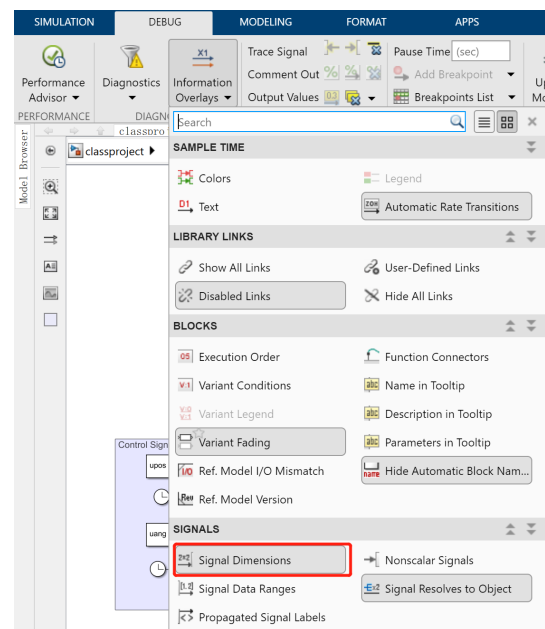

Fig. 17. Check signal dimensions.
- j. Final and biggest hint: Carefully read the error message and search the problem online. MATLAB is supposed to have the best documentation, and you can easily find the answer. Try your best to debug the code by yourself. Double-check the dimension of the data in the MATLAB workspace. If you want to check the dimension of the input and output of the block in Simulink, turn on the information overlay (Signal dimension) as shown in the Fig. 17.